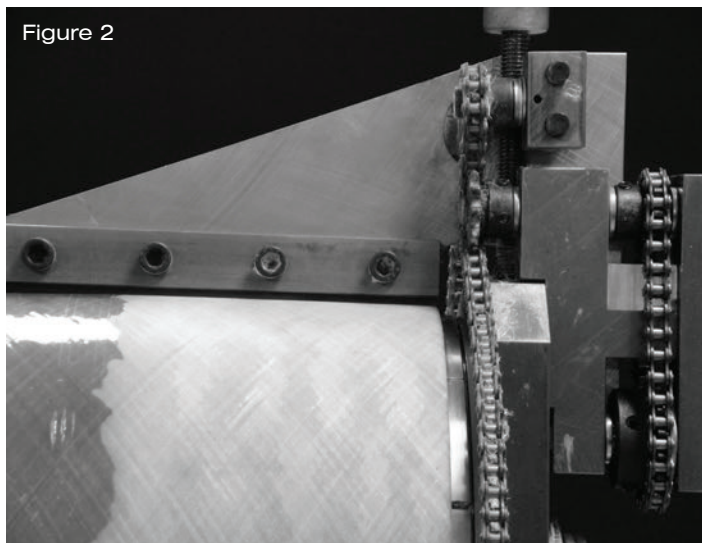

Figure 2
2. Insert the tool into a piece of pipe with a factory taper. Be sure the end of the pipe does not extend past the cutting blade. (See Fig. 2.)